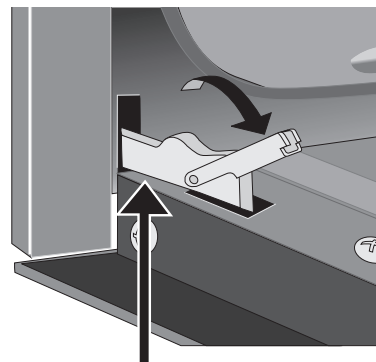

Figure 39: Unlock hinges to remove door
2. Pull the hinge locks on both left and right hinges down from the oven frame completely towards the oven door (Figure 39). A tool such as a small flat-blade screwdriver may be required.